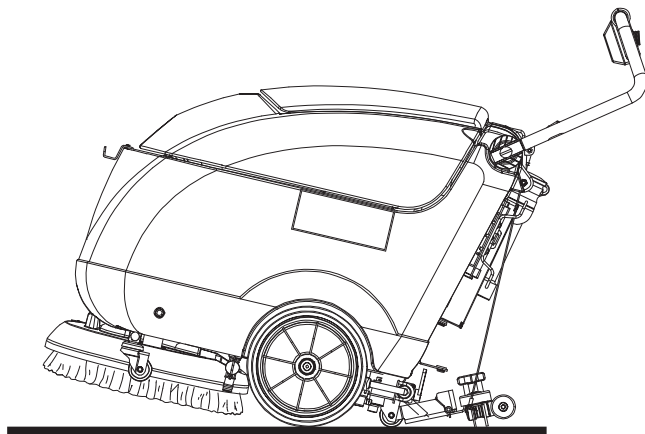

Figure 4
2. Lift the squeegee with the lever (19).
3. Grasp the handlebar (2) and slightly lower it until the rear wheel (7) comes into contact with the floor (Fig. 4). While holding the machine in this position, drive it to the transport/parking area.
4. In order not to drag the brush/pad on the floor and leave wet marks, when finishing working, remove the brush/pad-holder from the deck by using the release device (see the procedure in After Using The Machine paragraph), then place it on the support (43).